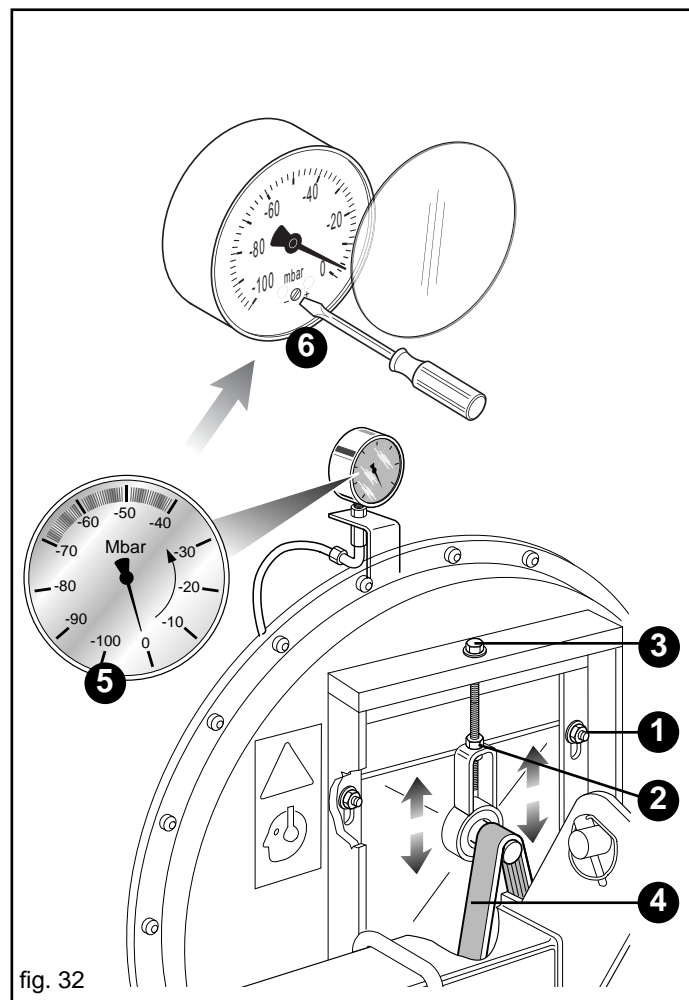

fig. 32
The fan (Fig. 32) creates a vacuum inside the distributors, so that the seeds are aspirated onto the holes in the plate.
- Loosen the 4 screws (1, Fig. 32);
- Loosen the nut (2, Fig. 32);
- If worn, replace the belt (4, Fig. 32).
- Tension the belt by tightening the screws (3, Fig. 32).
The vacuummeter (5, Fig. 32) is the vacuum measuring device. The one supplied shows aspiration values ranging from **-0 to -100 mbar**.
If it is necessary to reset the indicator of the vacuum gauge, remove the glass cover and use a screwdriver to take out the screw as shown in Figure 32 (6).